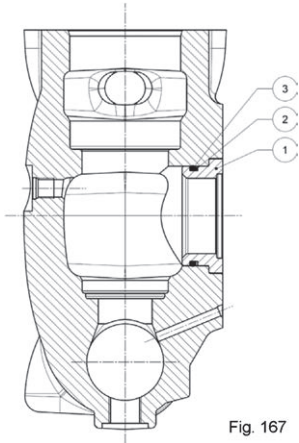
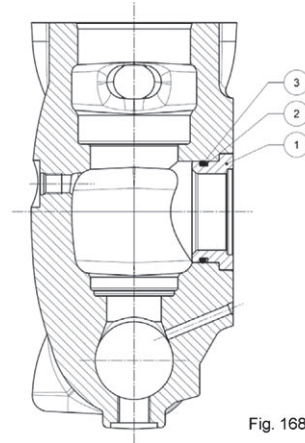

Fig. 167
Fig. 168
The manifold bushing must be assembled by driving bushes (pos.1) together with the anti-extrusion rings (pos. 2) and O-rings (pos. 3) and shown in fig. 167 for LK36-40-45 and fig. 168 for LK50-55-60.